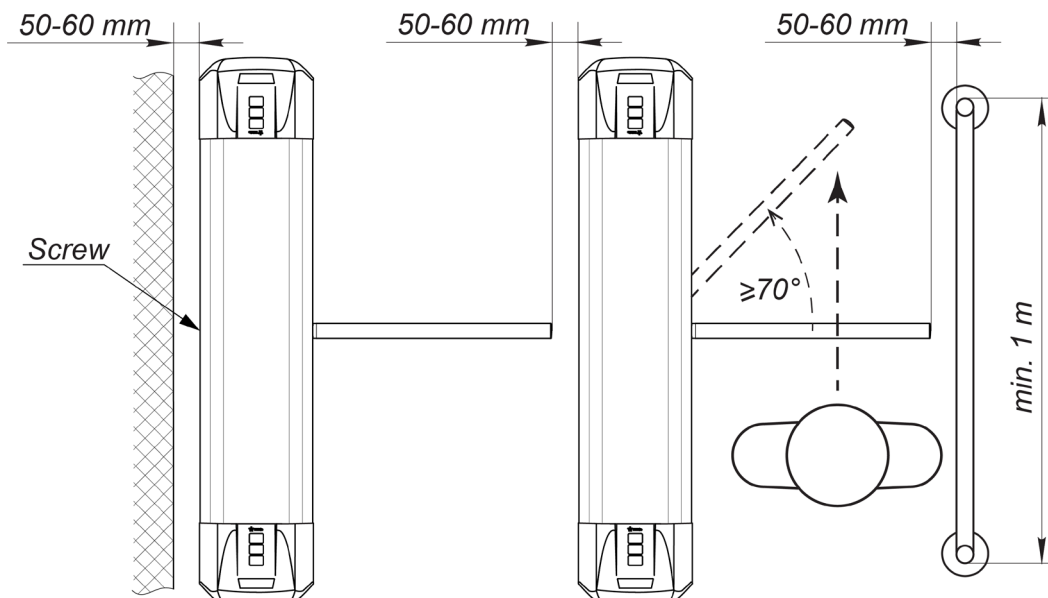

Fig. 10. Recommendations for the passage zone organization
- Insert an SW2.5 Allen key into the hole in the rear part of the turnstile housing and use it to unscrew the set screw (14), which fixes the top cover (3), all the way out (see Fig. 10);
- Carefully lift the top cover (3) upwards by the rear edge and, turning it in the direction of the barrier arms, remove it from the turnstile housing. While removing the top cover, be careful not to damage the CLB located thereunder;
When passing through the turnstile, in case the turnstile is operated by the ACS controller, it is necessary to turn the barrier arms at least 70° to register a passage event. To ensure such an angle of rotation, please follow the recommendations given in Fig. 10 when organizing the passage zone.
When installing the turnstile, it is necessary to leave a gap of at least 50 mm between the turnstile's rear side and the wall to ensure access to the set screw (14) that fixes the top cover (see Figure 10).